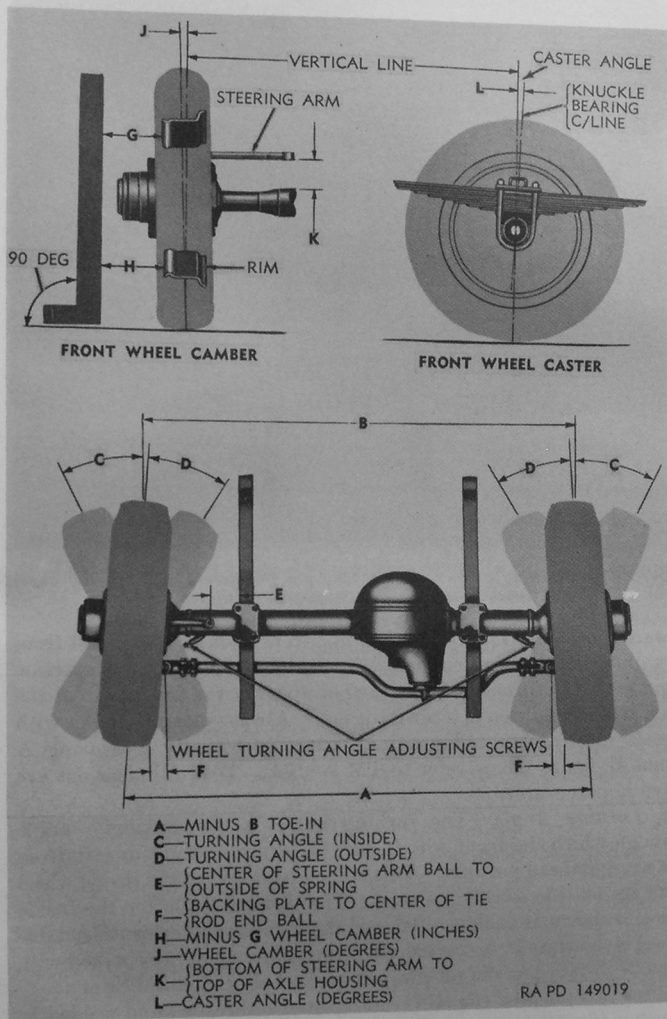
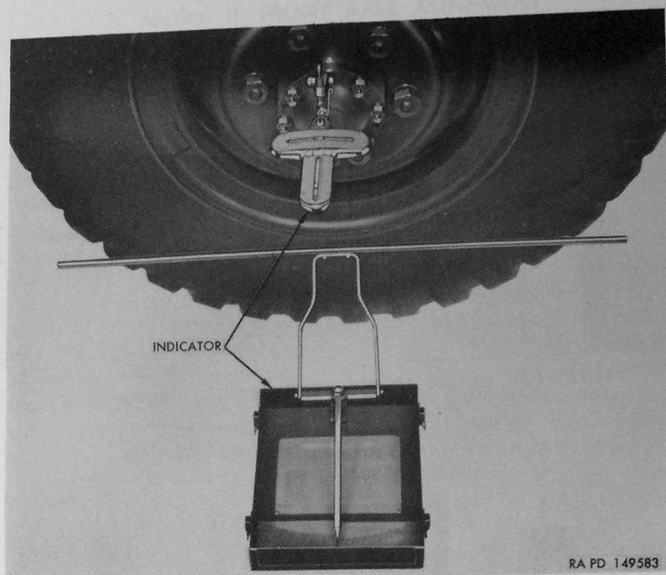
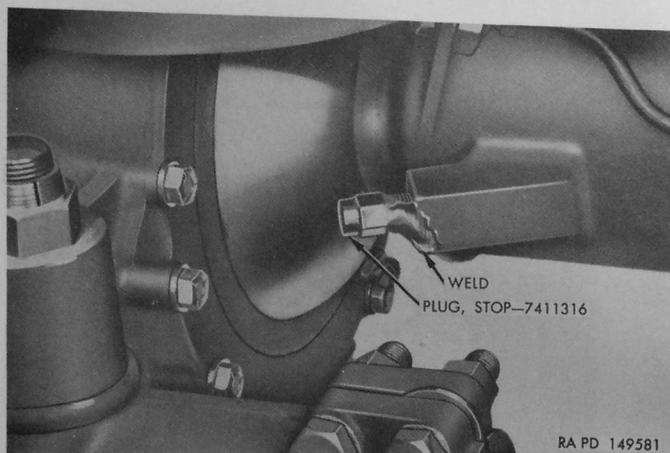

Figure 106. Front wheel and axle alignment chart.
Figure 107. Checking camber, caster, king pin inclination, and turning angle with wheel alinement indicator 41-I-130.
Figure 108. Steering knuckle support stop plug installed in housing.
b. Caster.—Front axle caster is the inclination of the center line through the upper and lower steering knuckle support trunnion bearings toward the rear of the vehicle ((L), fig. 106). Caster is established by design; therefore no adjustment can be made. The axle is given this caster angle to provide a “castering” action at the front wheels when the vehicle is in motion. When the front axle has proper caster, the wheels will tend to point straightahead as long as the vehicle is in motion. Caster angle is affected by a twisted axle housing, loose spring “U” bolts, or sagging springs. Insufficient caster will permit front wheels to wander out of straightahead position. Excessive caster will cause hard steering when turning. Caster angle must be checked with the axle installed on the vehicle, using wheel alinement indicator 41-I-130 for this purpose (fig. 107). Refer to paragraph 156 for caster angle.
c. Camber.—Camber is the sidewise inclination of the front wheels. Positive camber is the outward inclination of the wheels as viewed from the front of the vehicle; that is, the wheels are farther apart at the top than at the bottom (H) minus (G), fig. 106). Camber is established by design; therefore no adjustment can be made. A bent axle housing, bent steering knuckle, loose steering knuckle support trunnion bearings, or loose wheel bearings will affect camber. Unequal camber will cause vehicle to pull toward side having most camber. Camber may be measured with a square and rule in manner illustrated in figure 106; however, a more accurate determination can be made by use of wheel alinement indicator 41-I-130 for this purpose (fig. 107). Camber dimensions given in paragraph 156 are for straight-ahead position only and must be checked with axle installed on vehicle.
d. Toe-In.—Toe-in is the amount which the front wheels are closer together at the front than at the rear ((A) minus (B), fig. 106). An adjustable tie rod, connecting the two steering knuckle supports, is used to adjust toe-in. Camber causes both wheels to tend to turn outward from the vehicle; however, by adjusting tie rod to give wheels proper toe-in, the tendency to turn outward is counteracted and the wheels roll straightahead with no scuffing action on tires. Toe-in is affected by loose wheel bearings, bent axle housing, bent steering knuckle, loose steering knuckle support trunnion bearings, or a bent or improperly adjusted tie rod. Improper toe-in causes excessive tire wear or “scuffing.” Unequal toe-in may cause the vehicle to pull
toward the side having the least toe-in. When wheels are turned from straightahead to either right or left, toe-in changes, until at extreme right or left positions they are farther apart at the front than at the rear. This condition is termed toe-out. Always measure toe-in with wheels in straightahead position, either by actually measuring A minus B, figure 106 or refer to TM 9-819A. Toe-in dimensions are given in paragraph 156.
e. Turning Angle.—The turning angle is the maximum angle through which the front wheels may be turned to right or left from the straightahead position. This angle is greater for the inside wheel than the outside wheel on a turn. The turning angle for the inside wheel is shown as C, figure 106, and the turning angle for the outside wheel is shown as D, figure 106. Turning angle should be checked with the axle installed on the vehicle, using wheel alinement indicator 41-I-130 for this purpose (fig. 107). Stop plugs, threaded and welded in housing (fig. 108), are provided to limit the angle through which the inside wheel can turn. Refer to paragraph 156 for inside and outside turning angle, and to *f* below for adjustment procedure.
- (1) *Remove stop plug (screw).*—Cut braze (weld) attaching steering knuckle support stop plug (screw) (fig. 108) to axle
- (2) *Install new stop plug.*—Install new steering knuckle support stop plug (screw) (fig. 108) by threading it into axle housing.
- (3) *Adjust stop plug.*—Adjust stop plug by threading into or out of housing until angle C, figure 106, is correct for left wheel as indicated in paragraph 156. Use wheel alinement indicator 41-I-130 to obtain correct angle (fig. 107).
- (4) *Check angle "D."*—With wheels in position giving correct angle for "C" on left wheel, check angle D, figure 106, for the right wheel. If this angle is different than given in paragraph 156, toe-out on turns will not be correct. Inspect for bent, loose, or twisted tie rod and correct as necessary.
- (5) *Braze stop plug.*—When correct settings have been obtained, braze (weld) stop plug (fig. 108) to housing.
- (6) At right wheel, repeat operations previously described in (1) through (5) above.